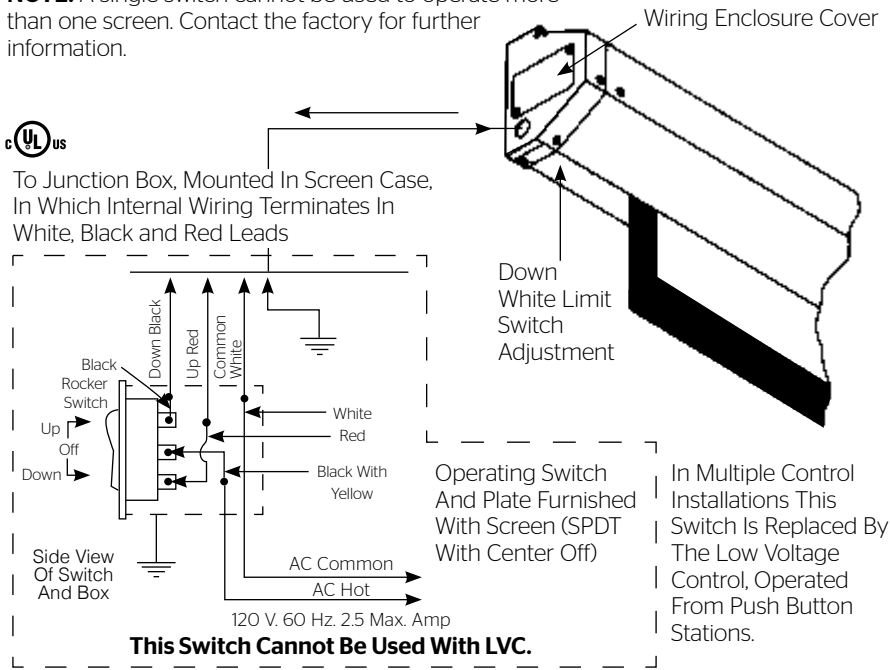

Figure 6
- Locate small 3-position switch on back of wall switch. (See Figure 6)